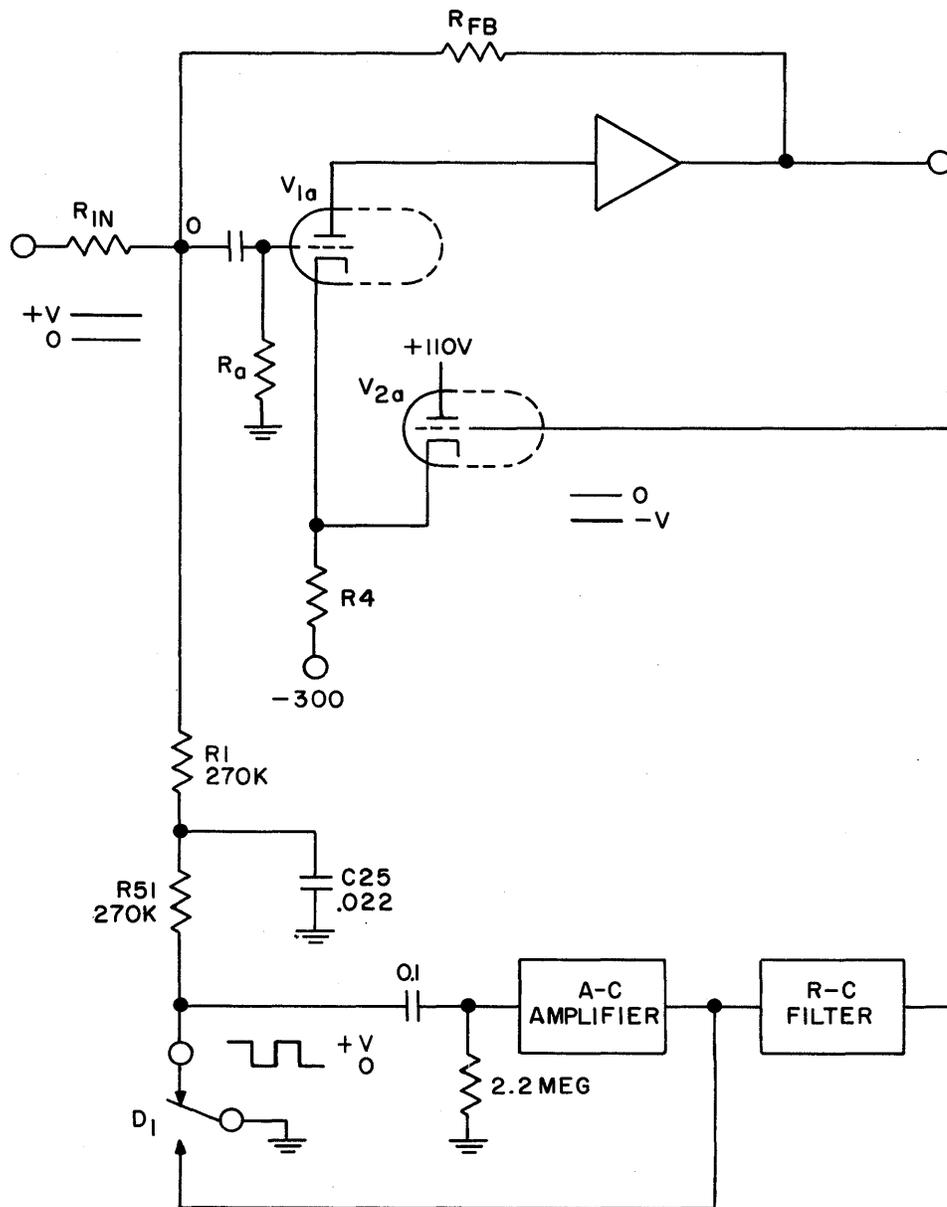

Figure 7. Amplifier Stabilizer Operation.
b. Stabilizer Circuit. The automatic balancing circuit of the d-c amplifier consists of the synchronous vibrator D1 and the triode-pentode tube V6 (type 6AW8). The purpose of this section is to compensate for drift in the d-c portion, *automatically*. Output of the stabilizer is applied to the second grid (V2a) of the differential input stage of the d-c amplifier. Refer to figure 7 which shows the way the stabilizer is connected. The summing point 0 must be maintained essentially at zero potential by the amplifier. Any variation of the output voltage above or below the required value causes point 0 to become slightly positive or negative. This voltage change is coupled through the low-pass filter to the contact of chopper D1. For the purpose of the following explanation assume that the voltage at the output of the d-c amplifier rises slightly. This is referred to as a positive drift. Point 0 becomes slightly positive and this voltage is chopped at a 94 cps rate by D1 and applied to the input capacitor of the stabilizer section in the form of a square wave. The square wave is amplified by